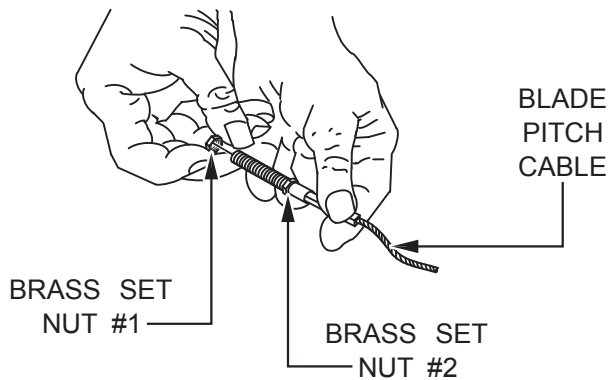

Figure 8. Blade Pitch Cable
2. Remove brass set nut #1 from the end of the blade pitch cable (Figure 8).
3. Thread brass set nut #2 as far as possible towards the blade pitch cable (Figure 8).